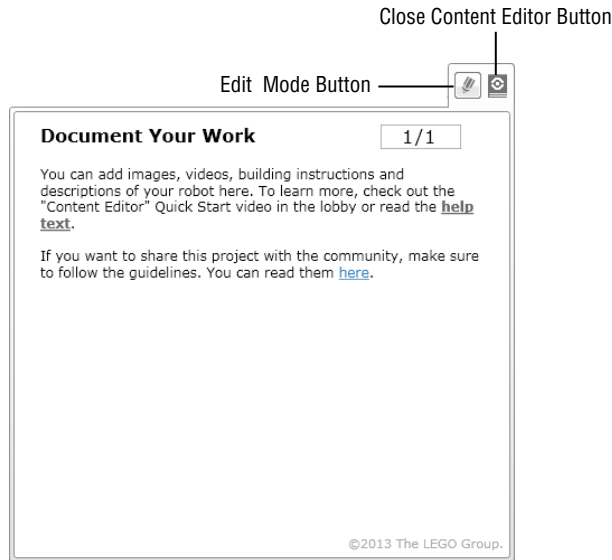

Figure 3-10: Content editor: the Edit Mode button and Close Content Editor button
- Content editor:** The content editor helps you to document your work. You can use it as a working journal for yourself or as presentation material about your robot when talking to other people. When you click the Edit Mode button (see Figure 3-10) in the top-right corner of the content editor pane, the software presents you with an editing page, where you can store photos, videos, descriptions, and instructions for your robot.
- **Hardware page:** If you don't already have your EV3 brick connected to your computer, you will see a graphic on the hardware page that indicates that the EV3 brick is not connected. It looks like the hardware shown in Figure 3-10. When you connect your EV3 brick to your computer, which we will try soon, the hardware page shows you how the computer is connected to the EV3 brick and into which ports the sensors and motors are plugged.